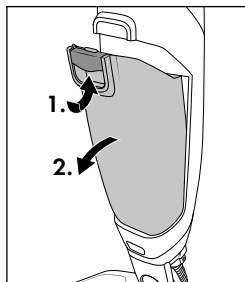

Fig. 13
- ◆ Lift the release lever 9 and pull the dirt container 10 forwards off the appliance (see fig. 13) at the same time.